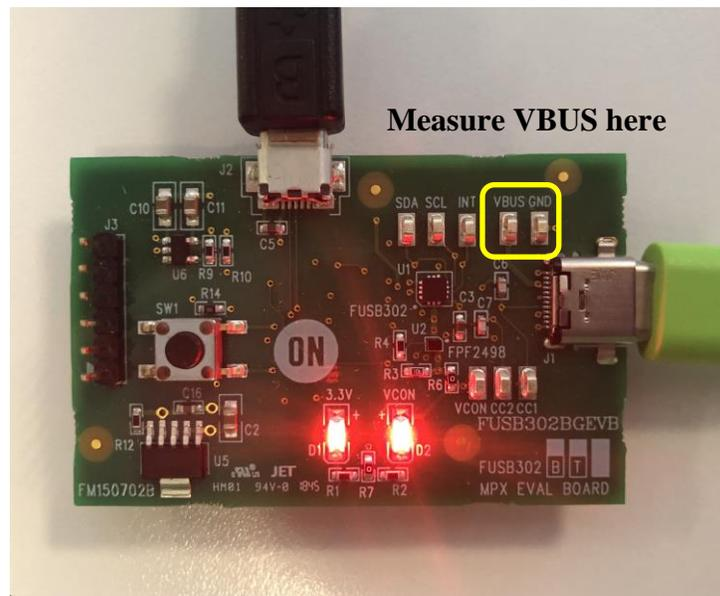

Figure 9 - Measure VBUS on FUSB302 EVB
8. Finally, as shown in Figure 9, use a voltmeter measure VBUS on the FUSB302 EVB to verify that 20V is present.